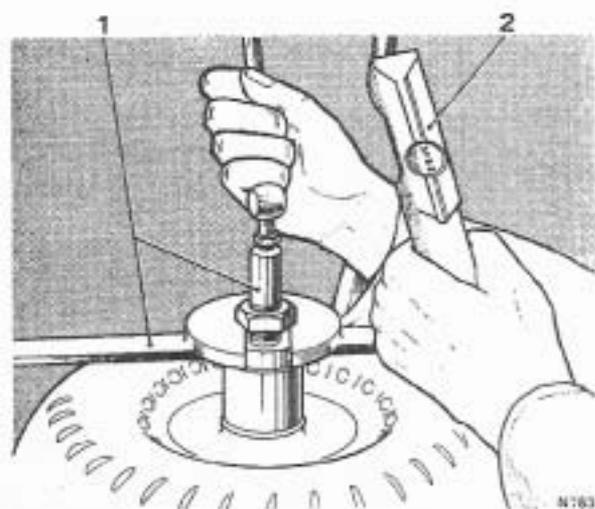

FIG. T170 TORQUE CONVERTER—LEAK TESTING FIXTURE
2. Fit the fixture band crosswise onto the converter so that the slotted plate fits around the valve and under the nut (*see Fig. T170*).